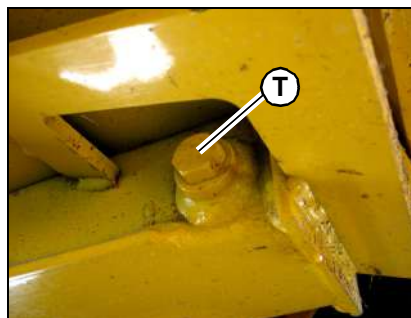

Figure 114 – Chaincase Drain Plug
2. Remove drain or combination check/drain plugs (T, Figure 114) on both chaincases and drain the oil into a suitable container(s).